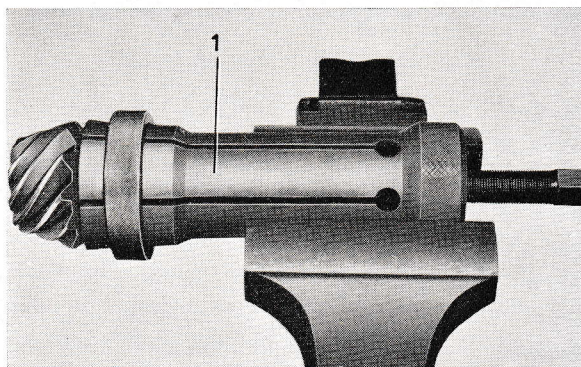

Fig. 11. Removing the rear pinion bearing.
6. If required, pull off the rear bearing (29) from the pinion, Fig. 11. Use puller SVO 2392.